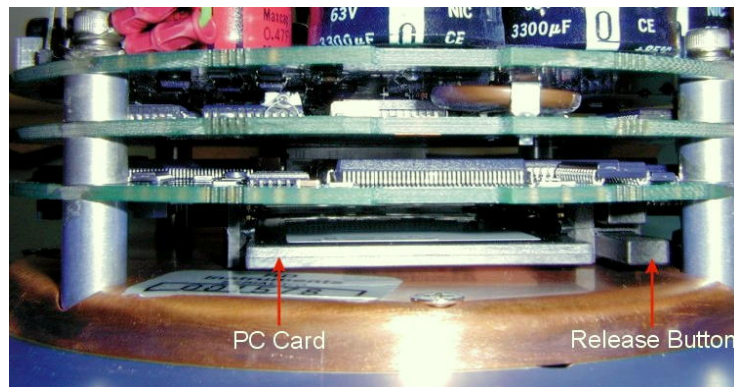

Figure 27. PC Card Recorder
The PC Card recorder is located on the Digital Signal Processor (DSP) board inside the Workhorse's electronics (see Figure 27). To recover data, the card can be removed and used in a personal computer (PC), or left in the Workhorse, and accessed by using *WinSC* (see the WinSC User's Guide). To remove or install a PC card, do the following.